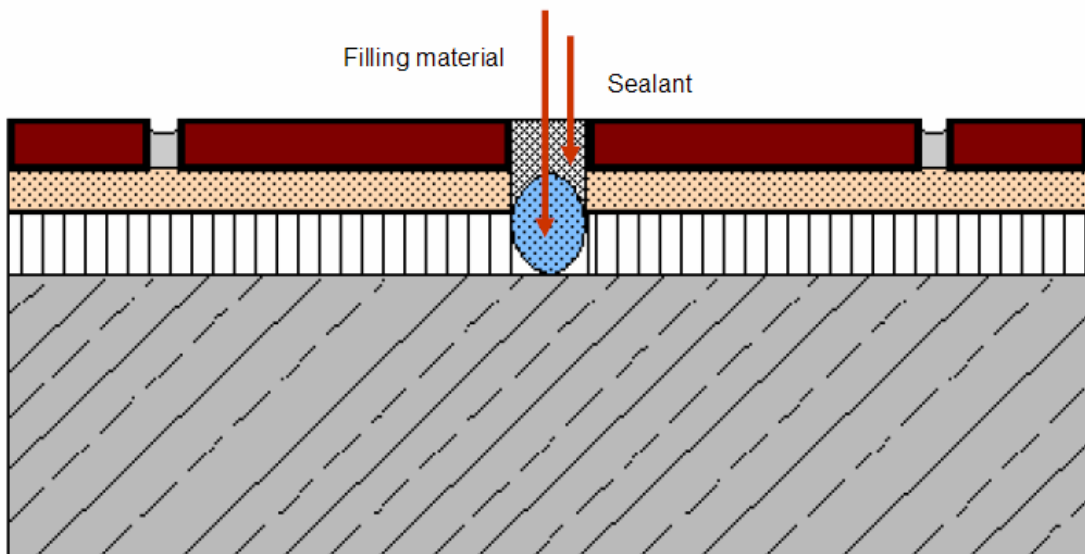

FIGURE 2
- Expansion joints must be carried out correctly and must serve their purpose: therefore they must be *flexible, watertight, and well-adhered* and **must reach the slip layer, asphalt fabric or substrate** (see figure 2).